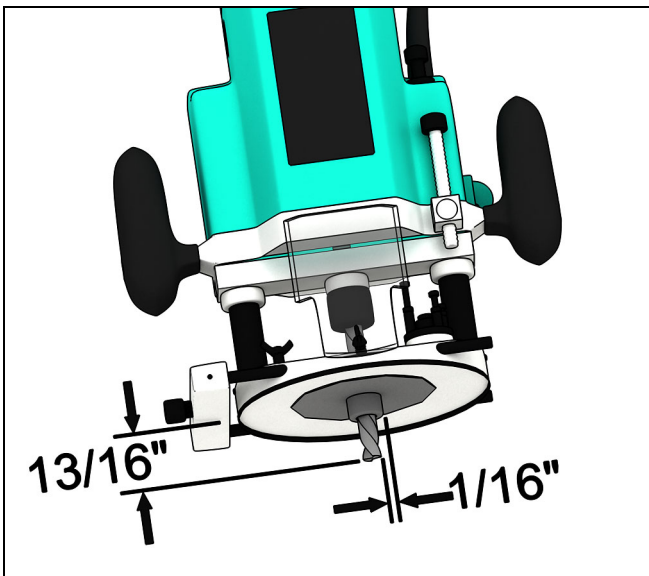

Figure 4
9. Set the routing depth to 13/16". See Figure 4